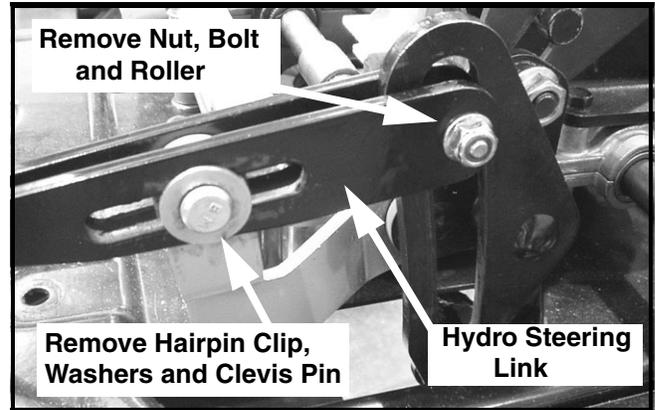

FIGURE 16
42. Disconnect the hydro steering link from only the right side of the steering gear box speed cam by removing the nut, bolt and roller with spacer. See Figure 16.
43. Remove the cotter pin and clevis pin securing the RH hydro arm to the hydro steering link. See Figure 16.